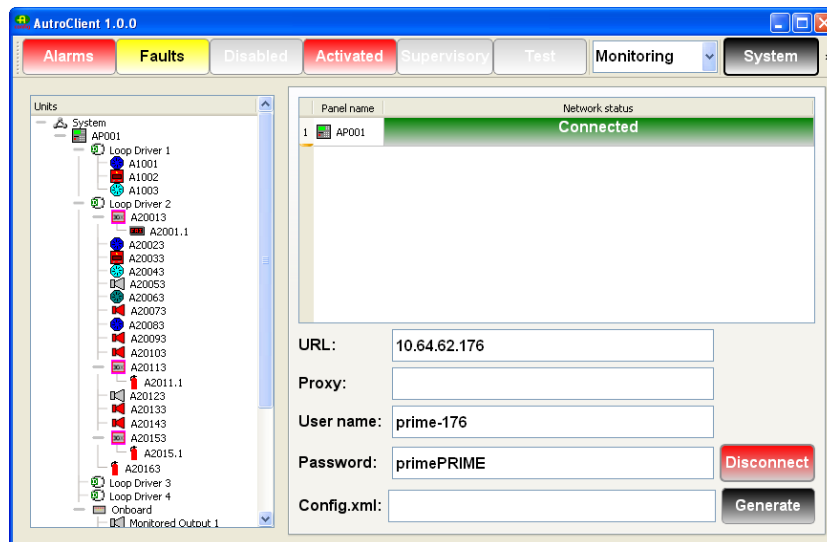

Figure 4. AutoClient on-line connection.
- Type the user name and password (if configured) and select the “Connect” button. See figure 4.